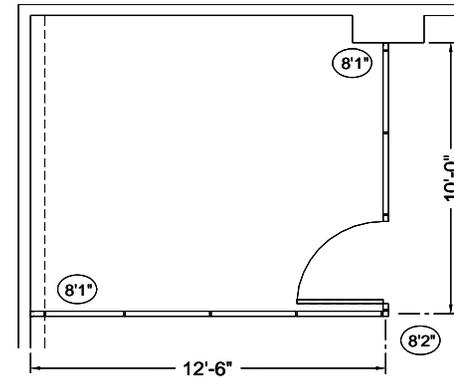

Figure 1
**A** Ceiling measurements should be taken at corners and foreign walls. On long spans, measurements should be taken at 10 foot intervals. A drawing similar to the floor plan shown in **Figure 1** must accompany every order. Indicate the measurement from the floor to the underside of the ceiling tile and circle it as shown in **Figure 1**.